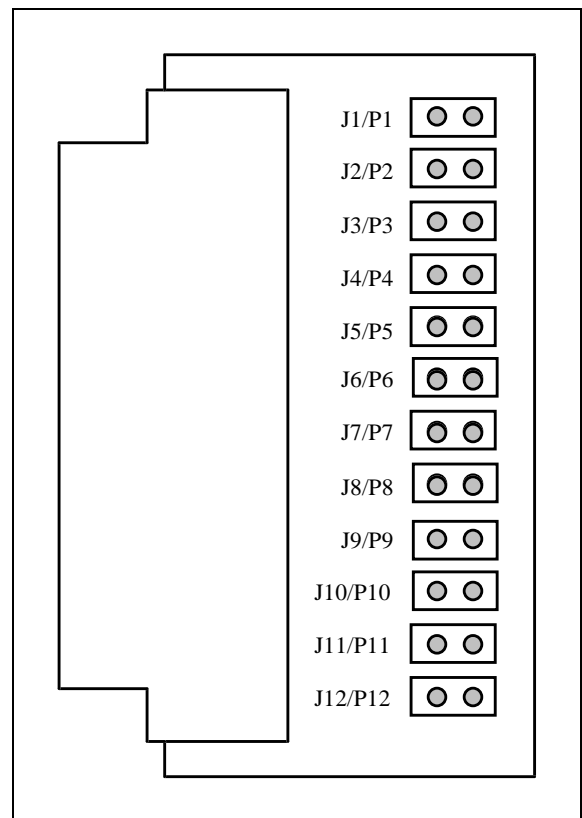

Figure 11 - Channel Termination Board
- Refer to Figure 11 and remove all jumpers corresponding to active channels (CH. 1 - J1/P1, CH. 2 - J2/P2,...CH. 12 - J12/P12). Verify that jumpers are installed on all unused channels.